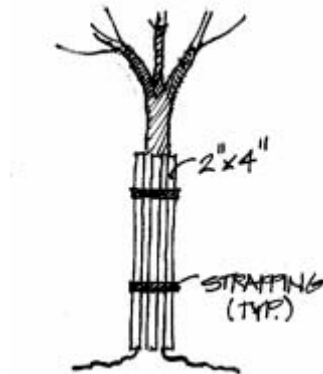

FIGURE 17
- In close areas where fencing to drip line is not possible, protect by strapping, not nailing, a continuous shield of wood, around trunk as shown in **Figure 17.**